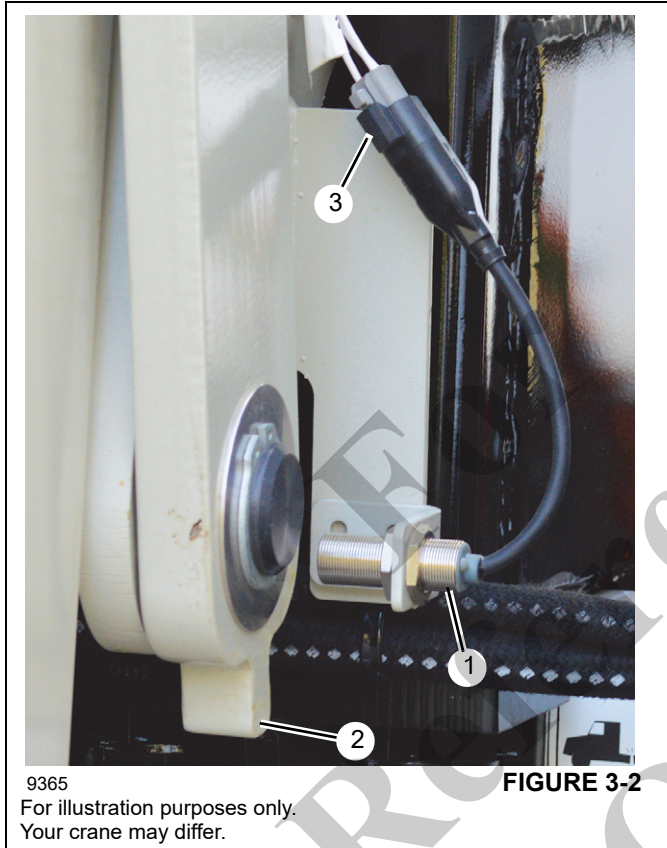

FIGURE 3-2
On newer versions of the crane, the OMS and RCL use proximity switches to determine if the outriggers are fully extended. The switches are located between the operator's cab and A-frame outriggers. The proximity switch (1, Figure 3-2) uses a tab (2) on the outrigger arm to determine when the outrigger is fully extended.
2. Disconnect the proximity switch (1, Figure 3-2) and sensor plug (3).
2. Install proximity switch (5) on plate (4) using two jam nuts (6).
3. Install switch (5) and plate (4) on chassis using capscrews (1), lockwashers (2), and nuts (3).
4. Connect proximity switch (Figure 3-2) to sensor plug.